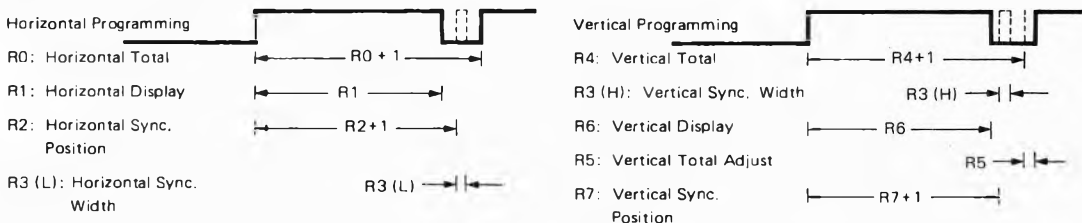

Figure 18.
* Relation between R0-R7 is in Figure 18.